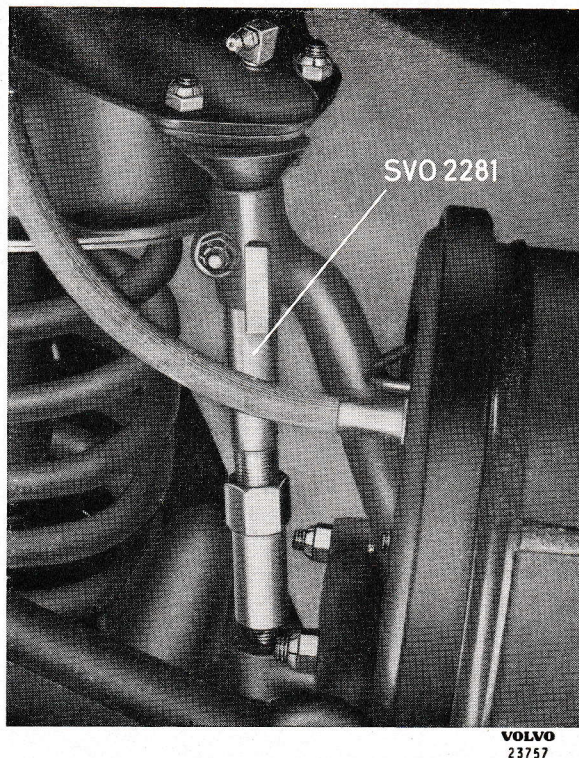

Fig. 16. Removing lower ball joint.
4. (On cars with disc brakes). Disconnect the brake line from the retainer. Apply tool SVO 2281 to the spindle as shown in Fig. 16. If may be necessary to bend the brake